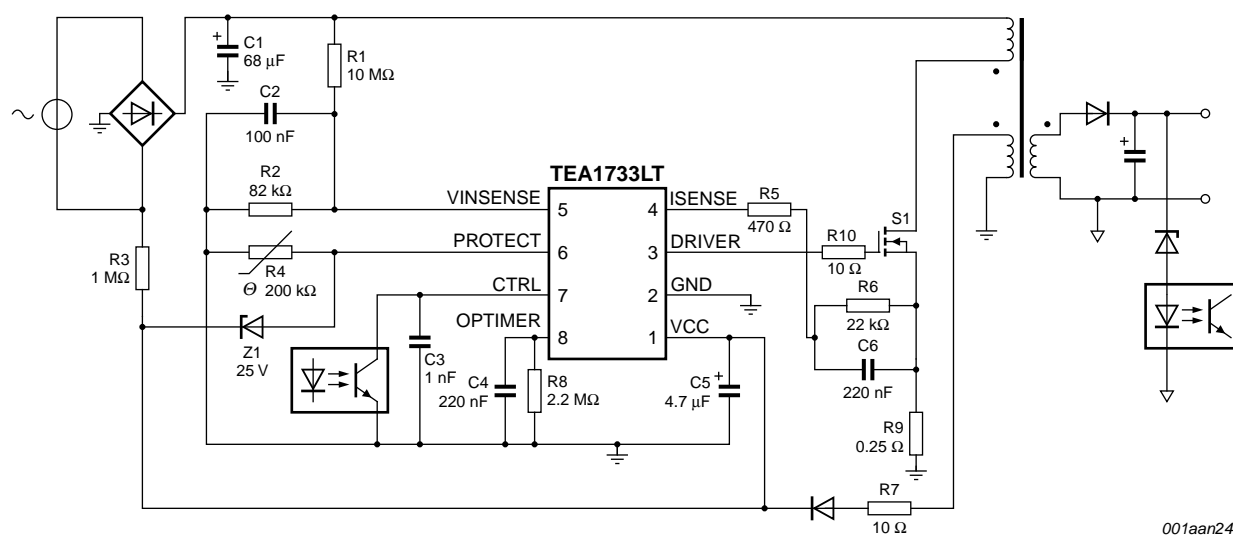

Fig 11. Typical application
A power supply with the TEA1733LT/N1 is a flyback converter operating in Continuous conduction mode (See Figure 11).
In the example shown in Figure 11, the PROTECT pin is used for OVP and OTP. The OVP level is set by diode Z1 to  $V_{CC} = 25.8\text{ V}$ . The OTP level is set by Negative Temperature Coefficient (NTC) resistor R4. The VINSENSE pin is used for mains voltage detection and resistors R1 and R2 set the start voltage to about 80 V (AC). The overpower protection time is defined by capacitor C4 is set at 60 ms.